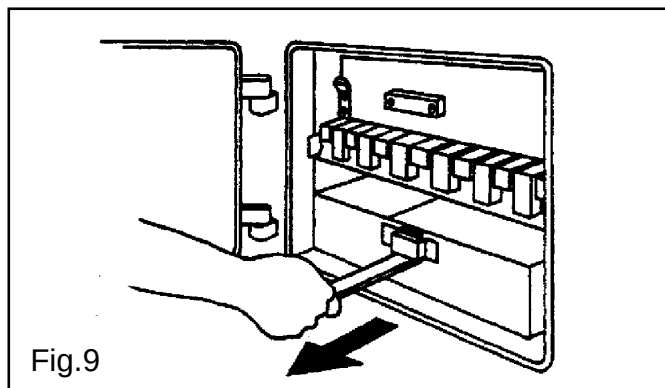

Fig.9
- Remove ashpan, empty and replace (Fig. 9).
- Remove ashpan and empty (Fig. 9).
Open the ashpit door to give access to the ashpan which must be emptied regularly (See Fig. 9).